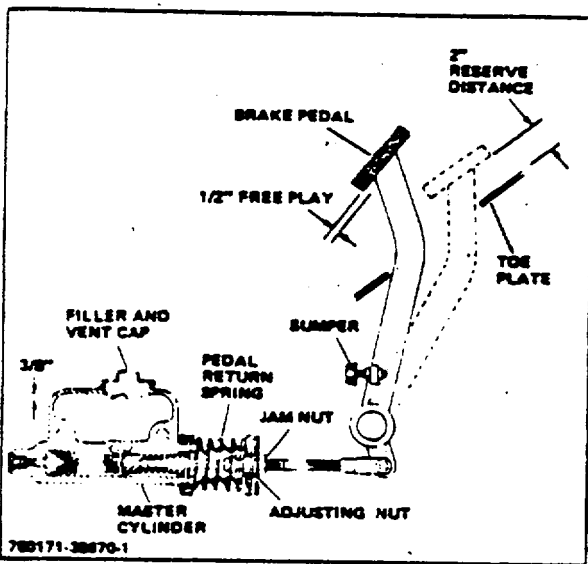

Figure 1-6. Pedal Linkage and Master Cylinder
1. Backoff jam nut securing rod of master cylinder and yoke. Figure 1-6.